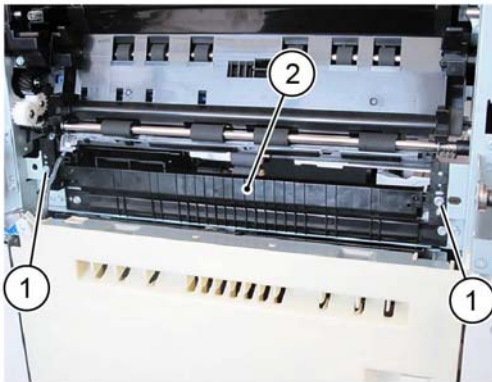

Figure 5 Tray 1 feeder assembly removal
8. Remove the tray 1 feeder assembly, Figure 5:
- a. Remove two screws (1).
- b. Remove the tray 1 feeder assembly (2).